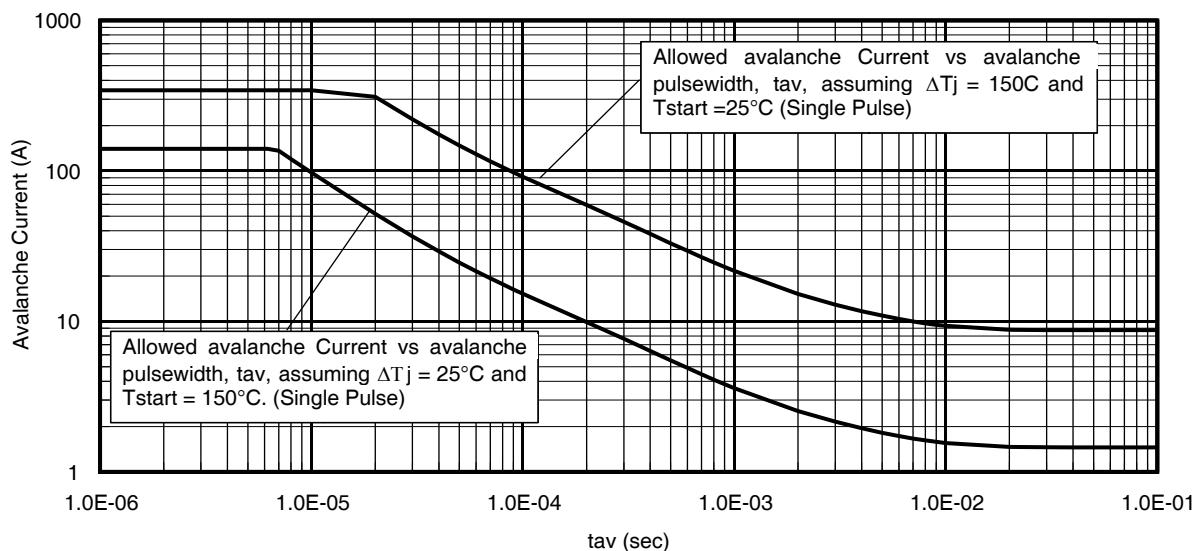

Fig 16. Typical Avalanche Current vs. Pulse Width
Notes on Repetitive Avalanche Curves , Figures 16, 17:
7. ΔT = Allowable rise in junction temperature, not to exceed $T_{j\max}$ (assumed as 25°C in Figure 16, 17).